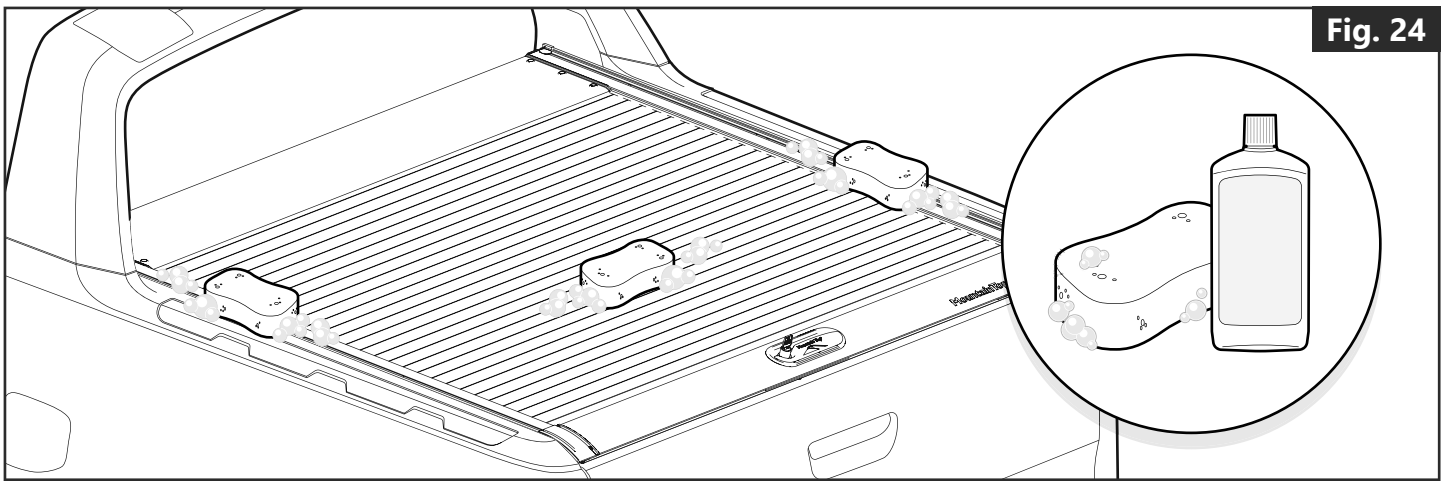

Fig. 24
- The Roll cover should be cleaned on a regular basis using water with normal car shampoo (PH < 8). **(Fig. 24)**